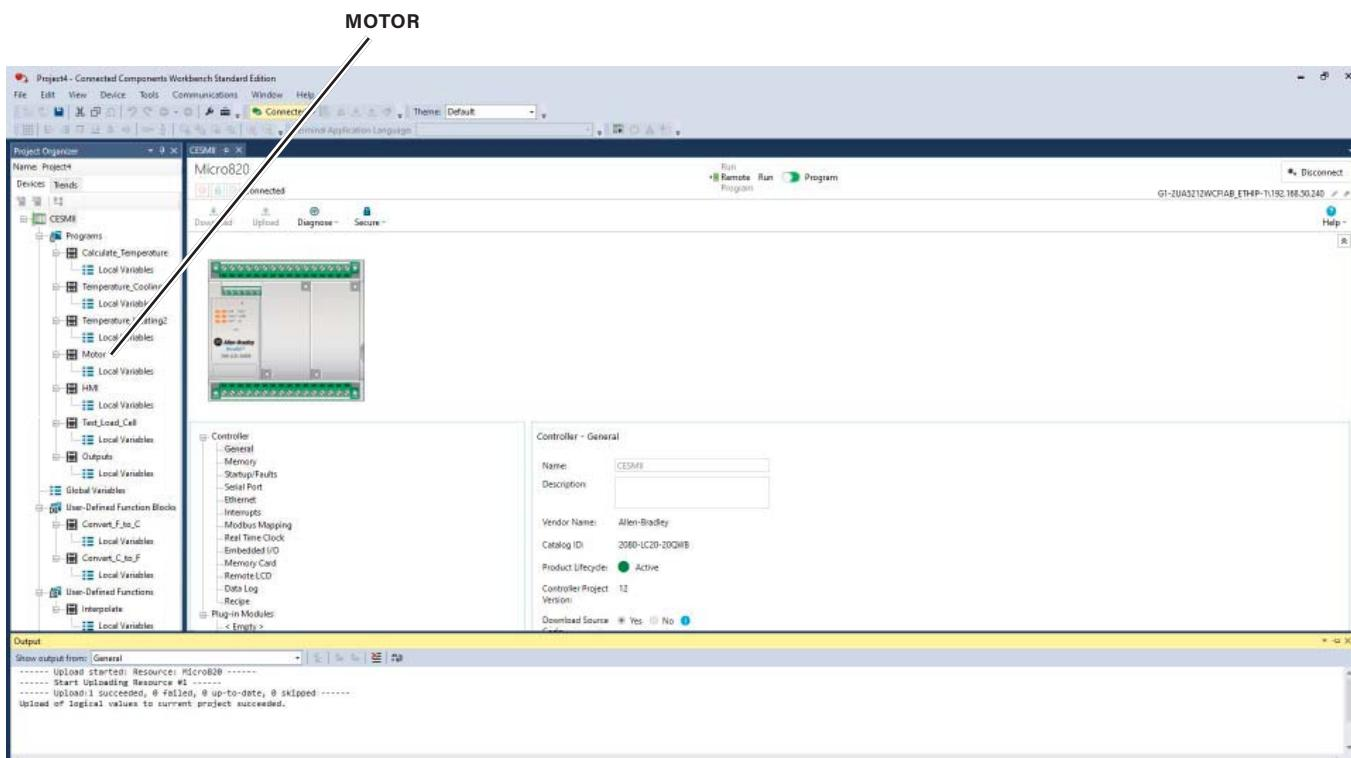

Figure 4-12. CCW with CESMII Program
- A. Double-click on **Motor**, located at the top lefthand side of the devices tree, as shown in figure 4-12.